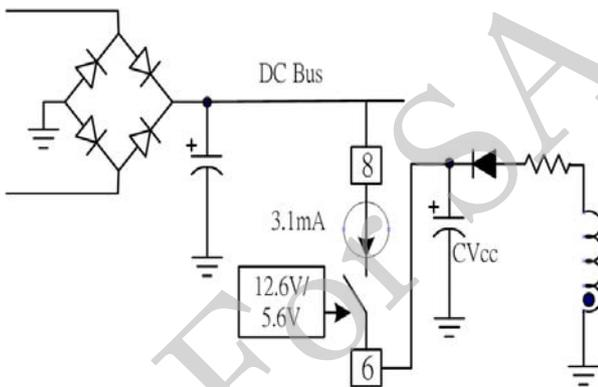

Figure 1
In Figure 1, when a high voltage of 120VDC-400VDC is applied to HV (pin8), the internal HV switch turns ON and connects a 3.1mA current source to Pin6 (Vcc). The capacitor at Vcc pin is charged up till it reaches 12.6V UVLO(ON) level that the controller starts operation. The HV switch is then turned Off to reduce the power dissipation in the startup circuit. It will remain Off during normal operation. The leakage current of the HV switch is less than 20uA typically for minimum power loss.